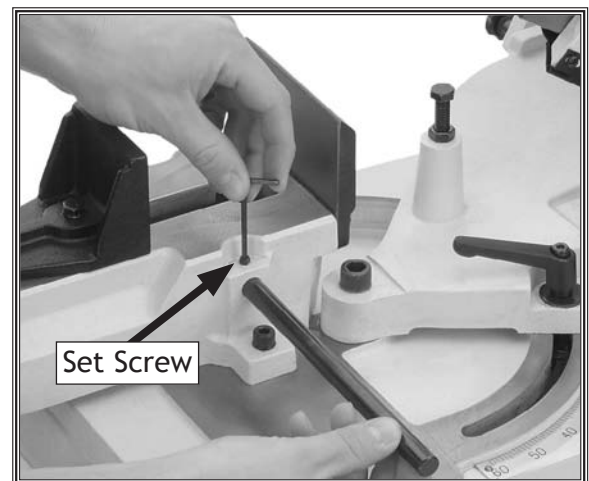

Figure 13. Installing stop rod.
2. Insert the stop rod approximately $\frac{3}{4}$ " into the saw until the end of the rod is just flush with the inside casting surface, as shown in **Figure 13**.
3. Use a 4mm hex wrench to tighten the set screw shown in **Figure 13**.